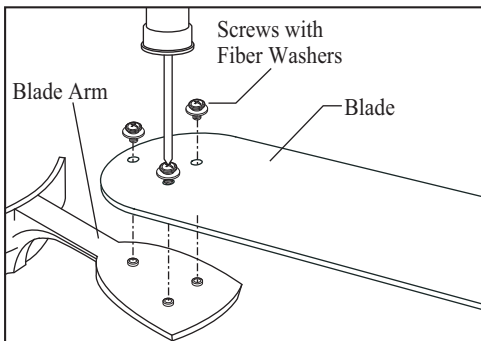

Figure 17
1. Attach blades to blade arms using three screws with fiber washers. (Fig. 17) Start a screw into the blade arm, do not tighten. Repeat for the 2 remaining screws and washers.